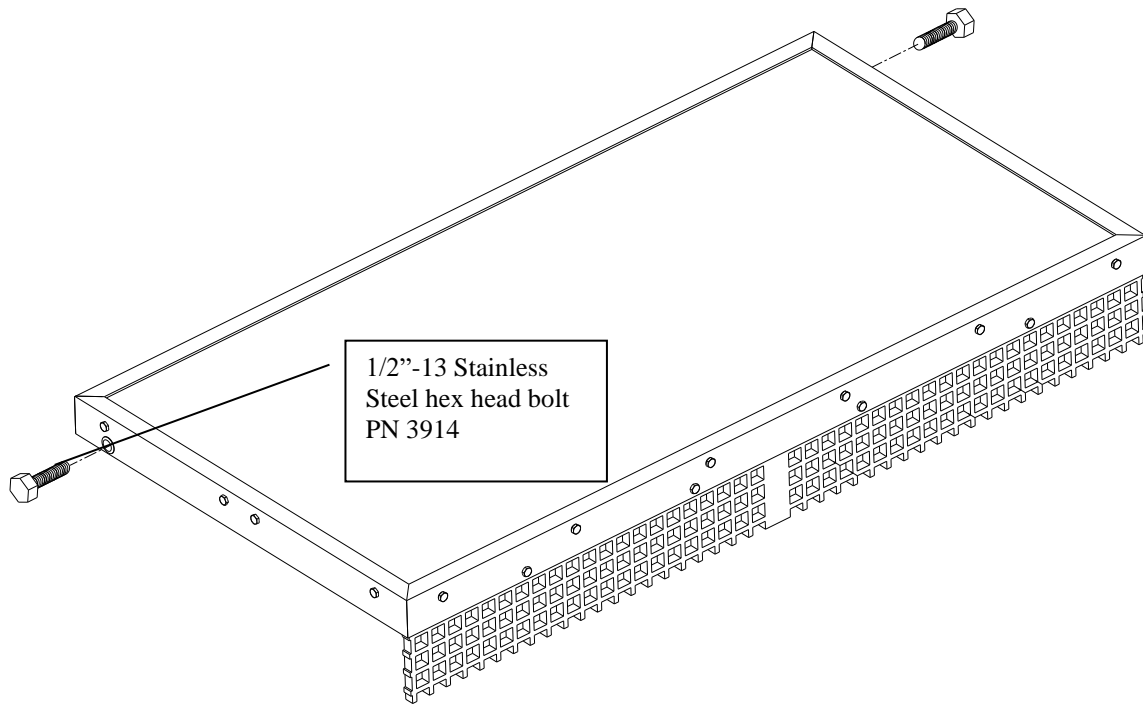

Figure 4.
7. Insert (2) 1/2"-13 x 1 3/4" bolts supplied into the threaded plugs as shown in Figure 4.